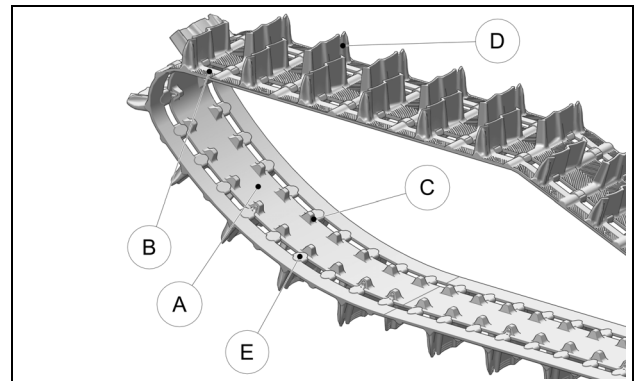

Figure 61
Verify wear on Track by inspecting the internal (A) and external (B) condition of the Track's carcass rolling path, driving lugs (C), the profile (D). Make sure that the Track's internal structure is not visible at cuts or in worn areas. Make sure the steel clips (E) are not abnormally worn. See Figure 61.